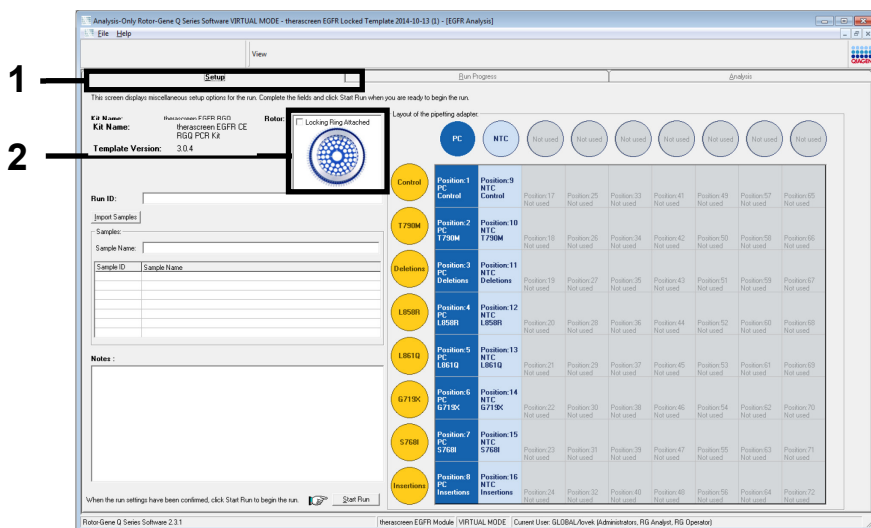

Figure 11. The “Setup” tab (1) and “Locking Ring Attached” box (2).
13. The “Setup” tab opens as the default (Figure 11). Ensure that the locking ring is properly attached then check the “Locking Ring Attached” box. Close the lid of the Rotor-Gene Q MDx instrument.